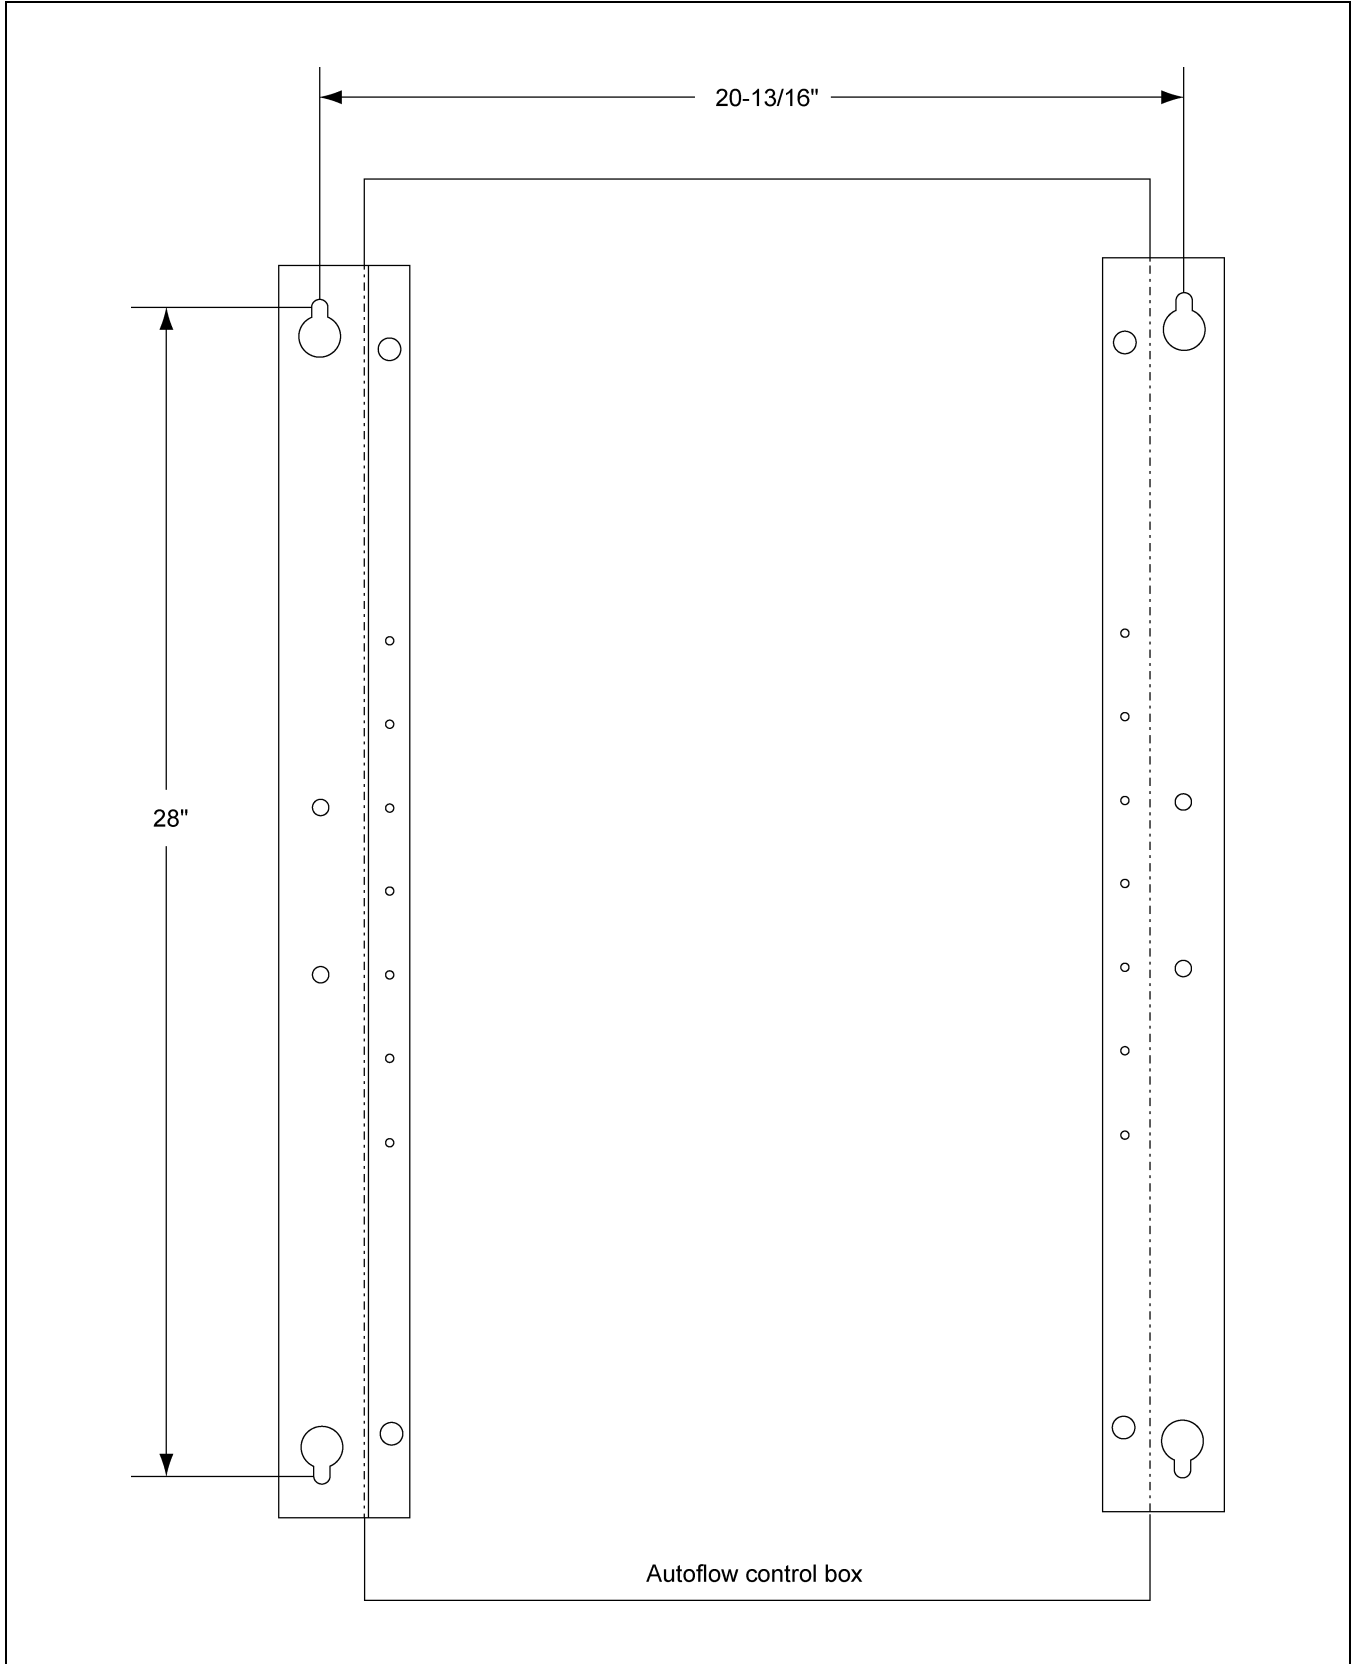

Figure 3C *Illustration of the bolt pattern for the autoflow control box.*
3. Use the hole pattern in Figure 3C on Page 18 to drill holes for mounting the Autoflow control box.